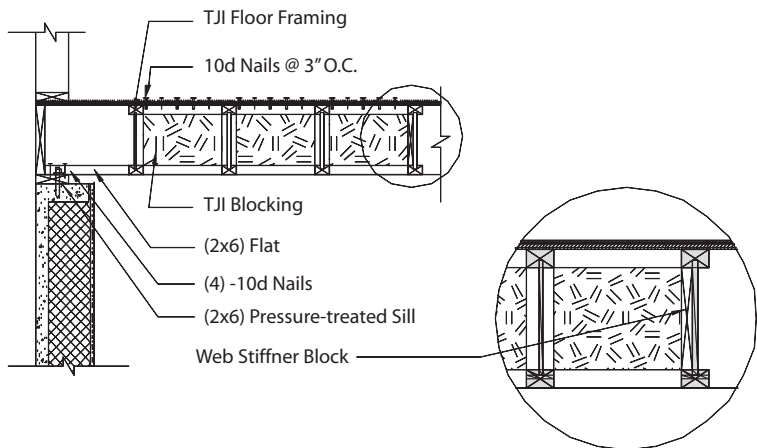

Figure 6
d) Floor Trusses and Light Gauge Steel Joists (see figure 6, Pg. 9)